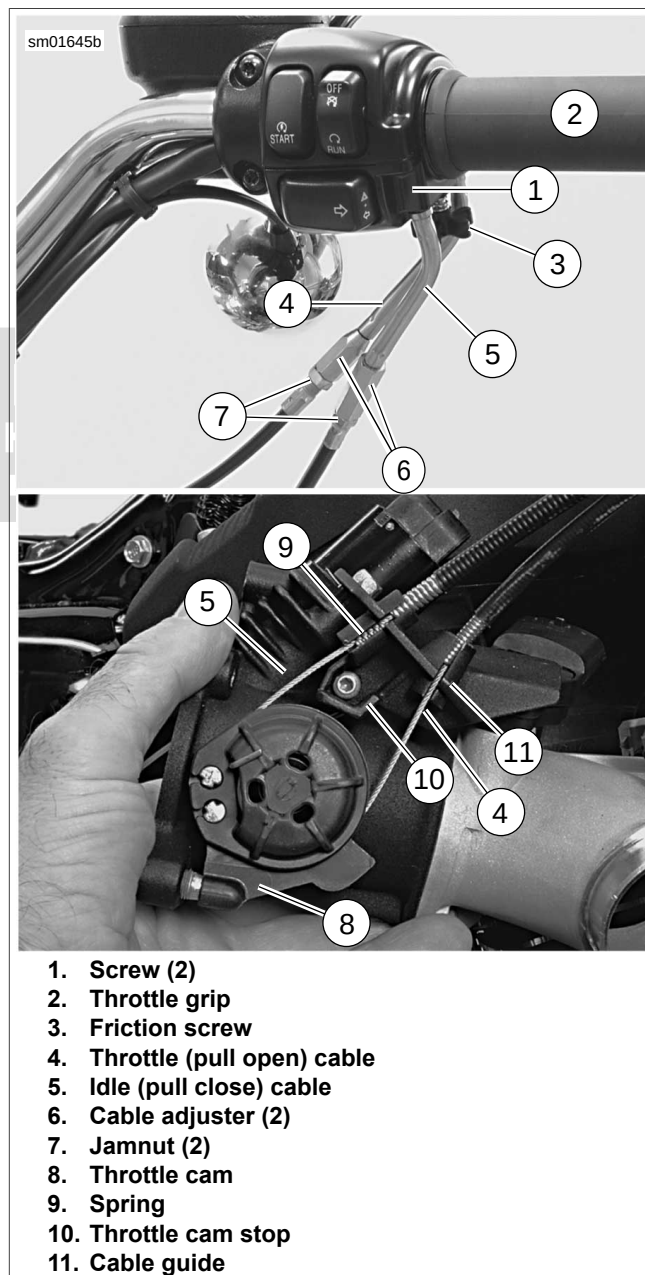

Figure 1-35. Throttle Cable Adjustment (typical)
2. See Figure 1-35. Remove screws (1) to separate the upper switch housing from the lower housing.
1. See Figure 1-35. Loosen throttle friction screw (3).
2. Slide rubber boot off control cable adjusters (6).
3. Loosen jamnuts (7).
5. Point front wheel straight ahead. With engine OFF, gently turn throttle control grip (2) to fully open. Hold in position.
6. Gently turn adjuster (6) on throttle control cable (4) counterclockwise until throttle cam (8) touches throttle cam stop (10). Release throttle grip. Turn adjuster counterclock-